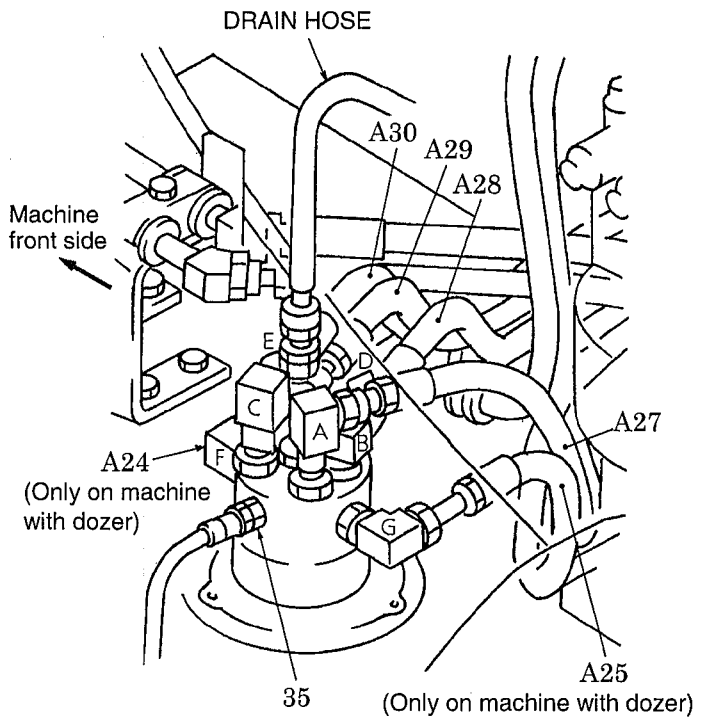

Fig. 20-2
- (4) Remove joint for piping (Refer to Fig.20-2)